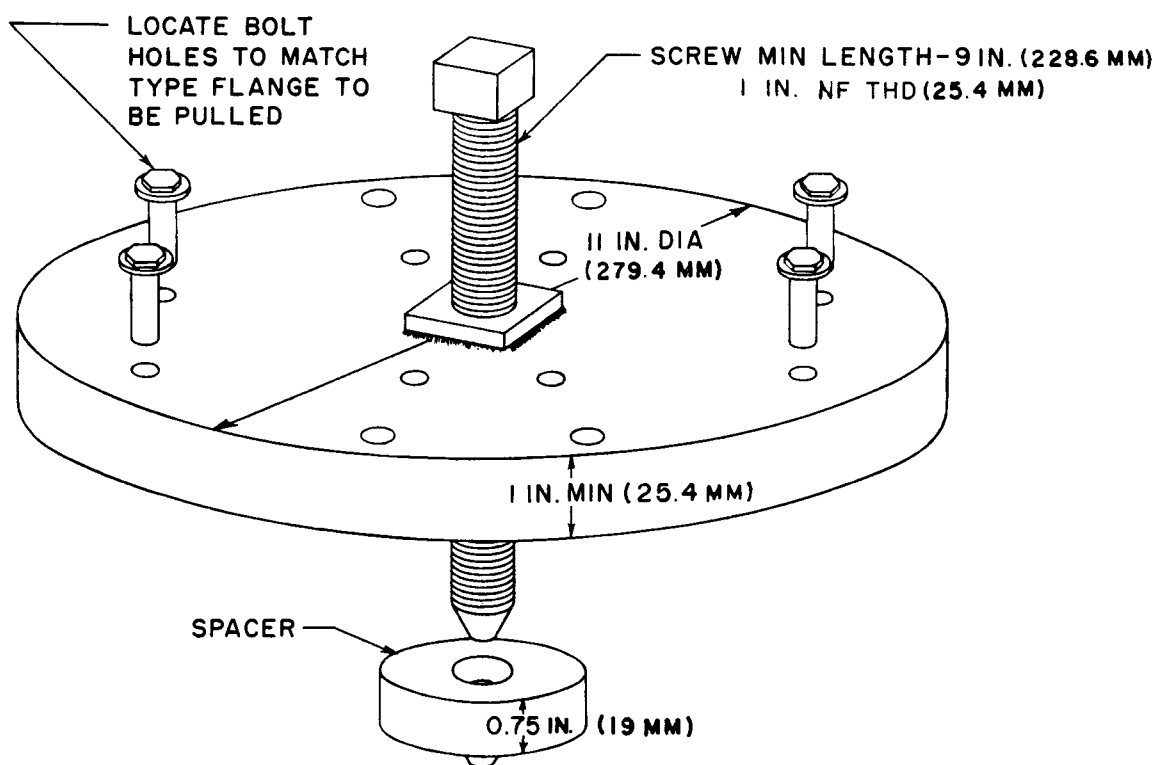

Fig. IV-2. Special tool for removing input or output flange
b. Special Tools. A minimum number of special tools is required in the overhaul of these transmissions. Such tools may be fabricated if suitable similar items are not available. Special tools are listed and identified as to use, in (1) through (3), below.
(1) Input or output flange puller (fig. IV-2).
a. Removing Flanges. When interference-fit drive flanges are used, they should be removed as the first step in disassembly. A heavy-duty puller kit or one similar to that illustrated in fig. IV-2 is required. A heavy steel plate may be bolted to the ears of the flange to prevent bending them and to provide a grip for the puller jaws of a standard puller. A steel bar may be used to prevent rotation of the flange while the puller is being tightened.